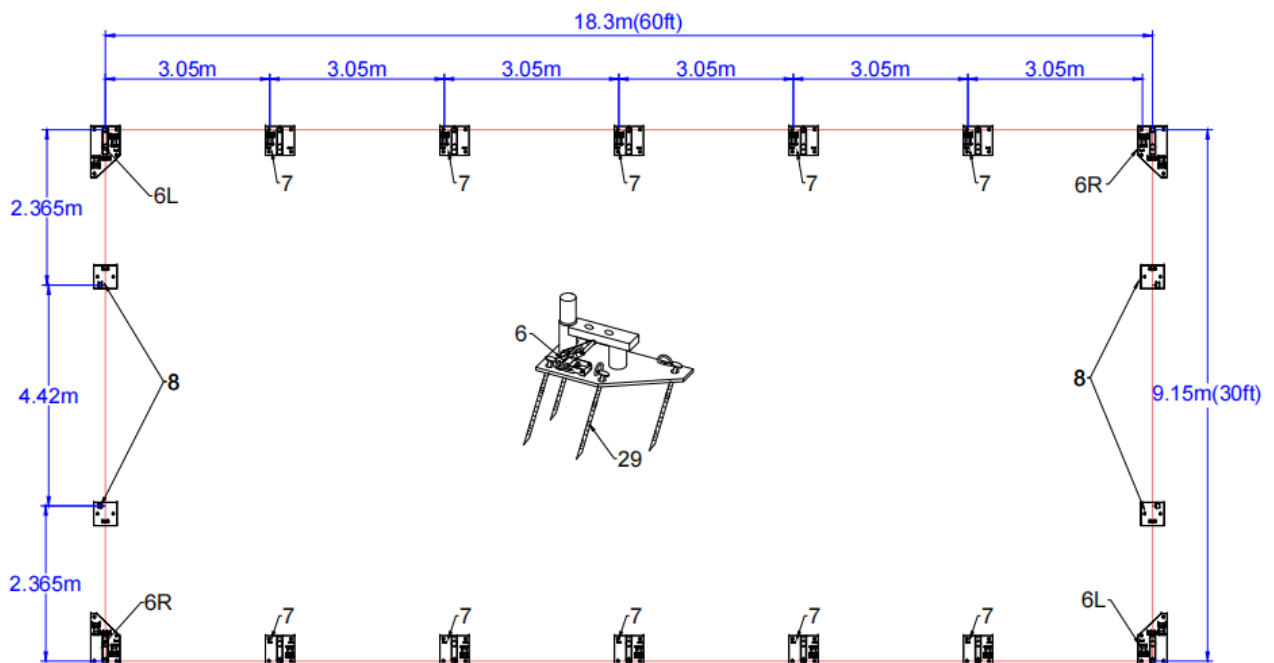

Figure 2: Foundation Placement
Please refer to the diagram (Figure 2) to place the base plates.
2. As Figure 2 shows, each base plate is equipped with 4 pieces of stake peg. Mark the stake peg hold through the base plate by using the stake peg. Move the base plates away and the mark determines where the stake peg will be.